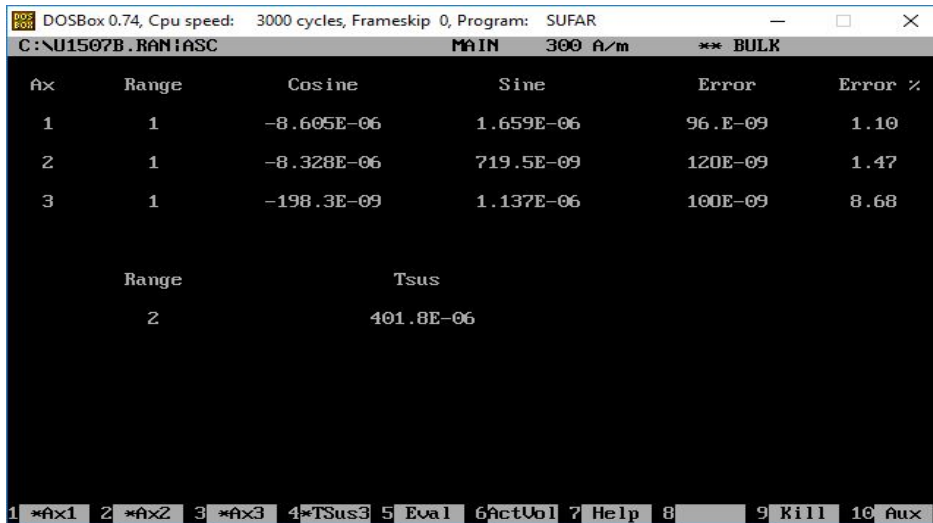

Figure 11 Sufar display after Ax1-Ax3 and bulk susceptibility measurements
- b. When the measurement is complete, the data for all 3 axes and the bulk susceptibility measurement will be displayed (**Figure 11**).